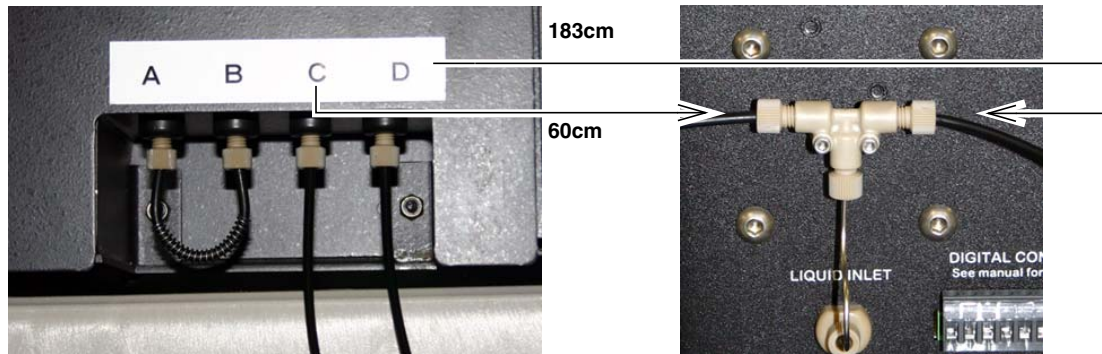

Figure 1-2 Connecting the Rf ports to the ELSD
2. Connect the shorter tubing assembly to port C, and the longer tubing assembly to port D (refer to Figure 1-2).